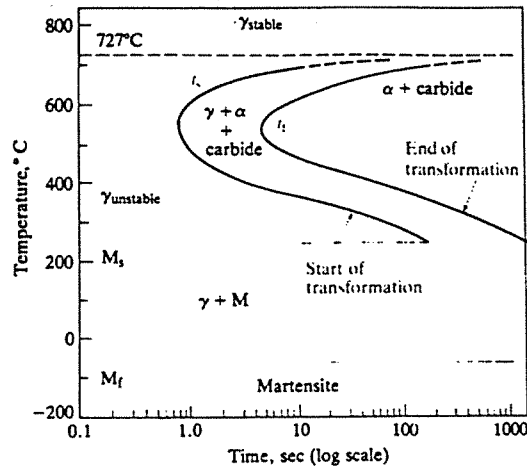

Fig 2 I-T Diagram for a 0.8% Carbon Steel
- (b) Fig 2 shows the isothermal transformation curve for a eutectoid (0.8%) carbon steel. Thin sections of the steel are heated to 800°C for 1 hour, then heat treated as follows: